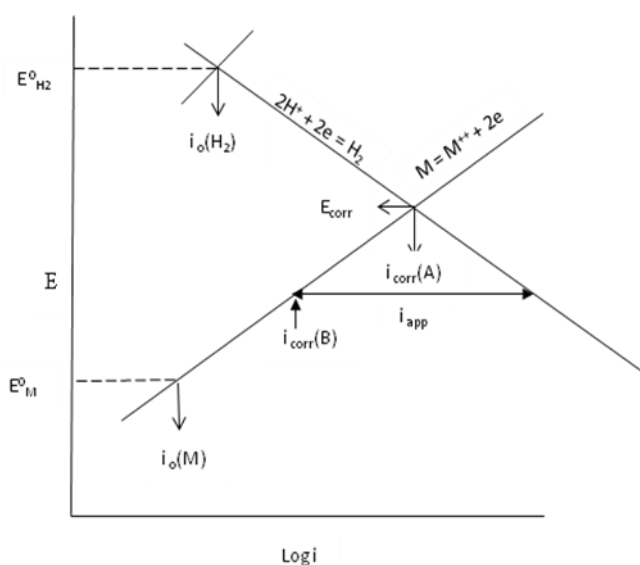

Fig 16.2 Electrochemical principles governing cathodic protection
Principles governing cathodic protection are illustrated in Fig. 16.2 below. As per mixed potential theory, the zero current criterion is shown. An equilibrium is established on metal (M) in which anodic oxidation rate is equal to cathodic reduction rate [E_{corr} and $i_{\text{corr}}(A)$]. By cathodic polarization of the metal with an applied DC current (i_{app}), initial corrosion potential is seen shifted to a lower value [$i_{\text{corr}}(B)$]. Complete stoppage of corrosion, requires polarization of the metal to the reversible potential of the metal (E_M^0).